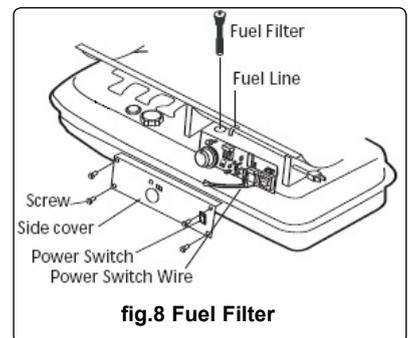

fig.8 Fuel Filter
- 7.5.1. The fuel filter (fig.8) should be cleaned twice per season, unless contamination occurs where it will require cleaning immediately. To clean the filter, remove and wash in paraffin.